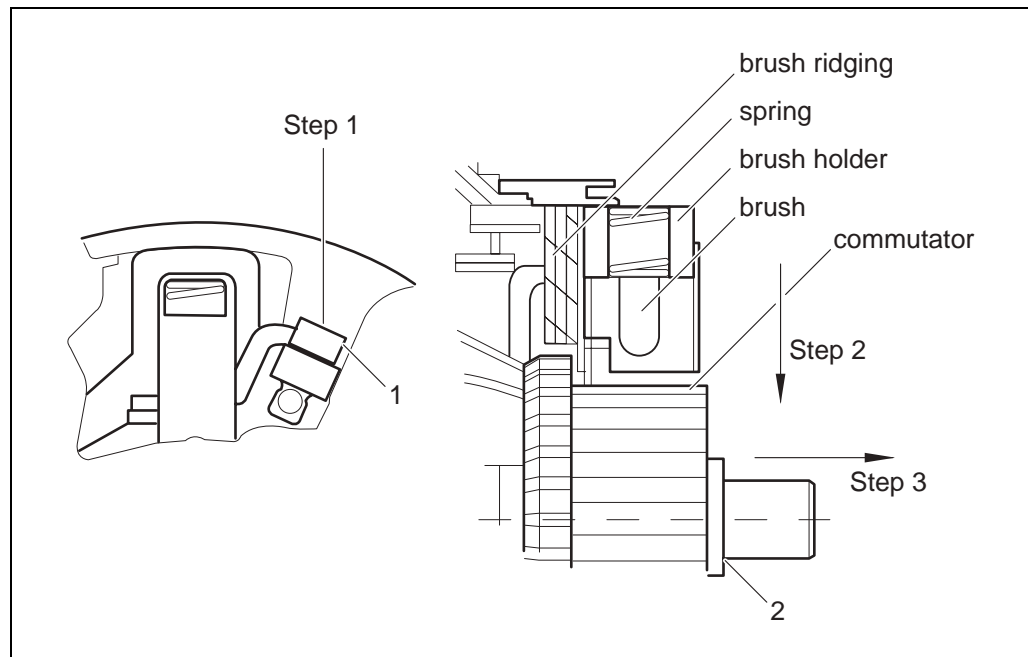

Figure 8.2
7. Disconnect all four brushes by undoing the screws (pos. 1 figure 8.2) - step 1, then push each brush kit towards the commutator - step 2. Now remove it from the brush rigging - step 3. Replace the old brush kit with a new one by following the above instructions in reverse. It is recommended that each brush is changed in turn to avoid confusion. Make sure that each brush kit is replaced with the correct part that has the brush cable on the same side. (Service kits consist of two matching pairs of brush kits!)
8. Re-tighten the screw (pos. 1 figure 8.2) with a torque of 1.3-1.8 Nm.
9. Relocate the terminals into the slots in the rear bracket and replace it on the motor. Ensure that a washer is in place between the armature and the bracket (pos. 2 figure 8.2) and that the bracket is positioned by a tooth and a slot respectively on the yoke and bracket.